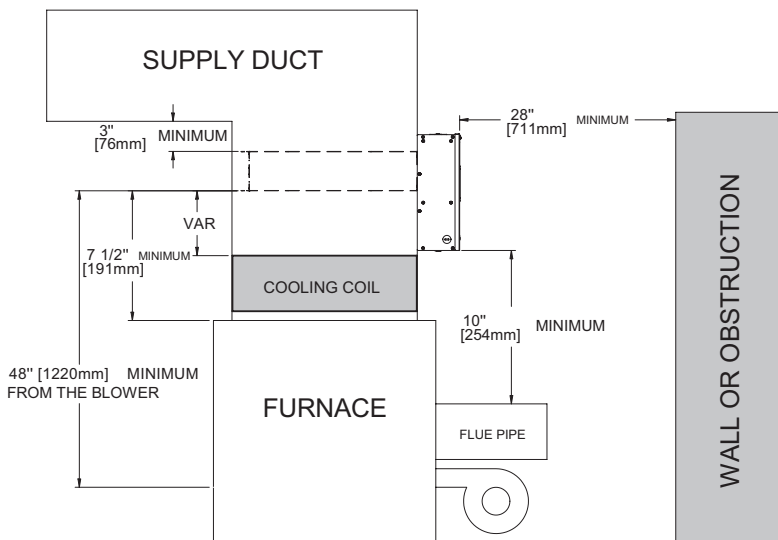

FIGURE 2A
N.B : The duct cut-out must be positioned accordingly to figures 2A & 2B.